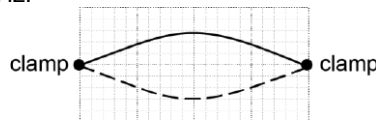

Fig. 5.2
The direct current is changed to an alternating current of constant amplitude and variable frequency, causing the wire to oscillate. The frequency of the current is increased until the fundamental natural frequency of the wire is found as shown in Fig. 5.2. This is 70 Hz.
- i. In the situation shown in Fig. 5.2 the amplitude of the oscillation of the centre point of the wire is 4.0 mm. Calculate the maximum acceleration of the wire at this point.